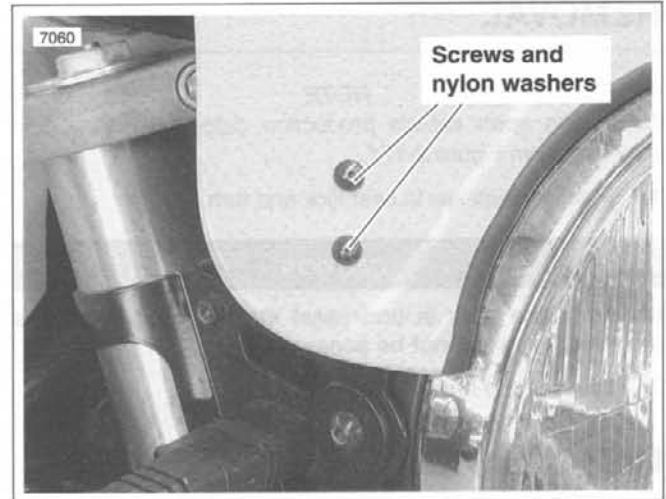

Figure 2-170. Windscreen, Right Side
1. See Figure 2-170. Remove two screws and nylon washers on each side.
3. See Figure 2-170. Install two screws and nylon washers on each side. Tighten securely.